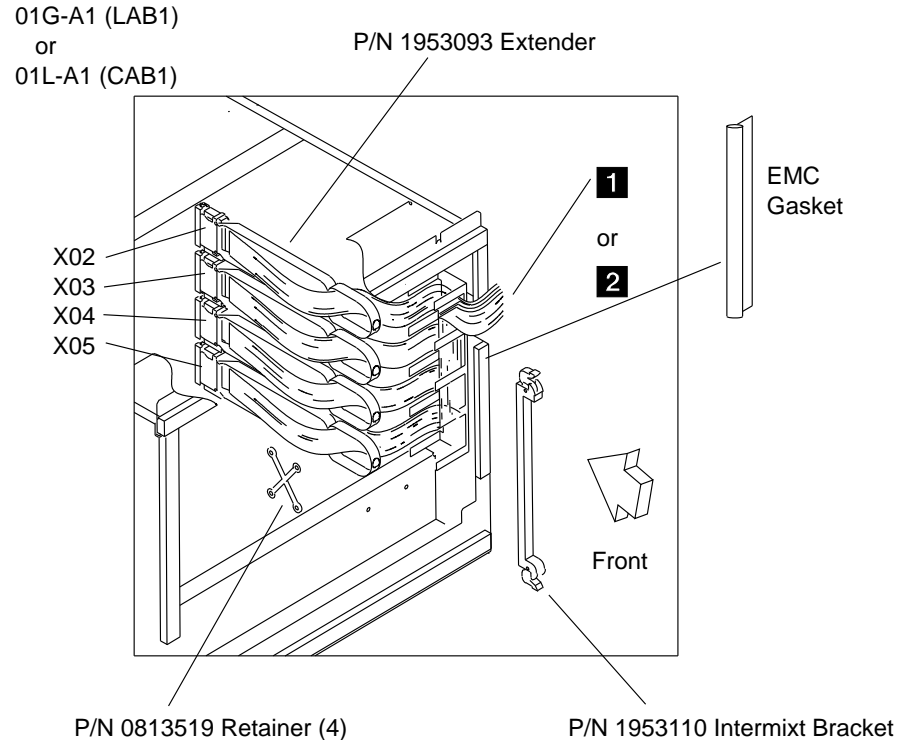

Figure 5-2. Line Adapter or Channel Adapter IOC Bus Routing in the 3745
- Step 1. \_\_\_\_ At the top front right of the 3745, locate the LAB1 board in 01G-A1 (see Figure D-1 on page D-2 for location) and remove the upper cover. Using a screwdriver, pry off the EMC gasket from the right side of the board enclosure (see Figure 5-2).
- Step 1. \_\_\_\_ At the front right bottom of the 3745, locate the CAB1 board in 01L-A1 and remove the board cover. Using a screwdriver, pry off the EMC gasket from the right side of the board enclosure (see Figure 5-2 on page 5-3).